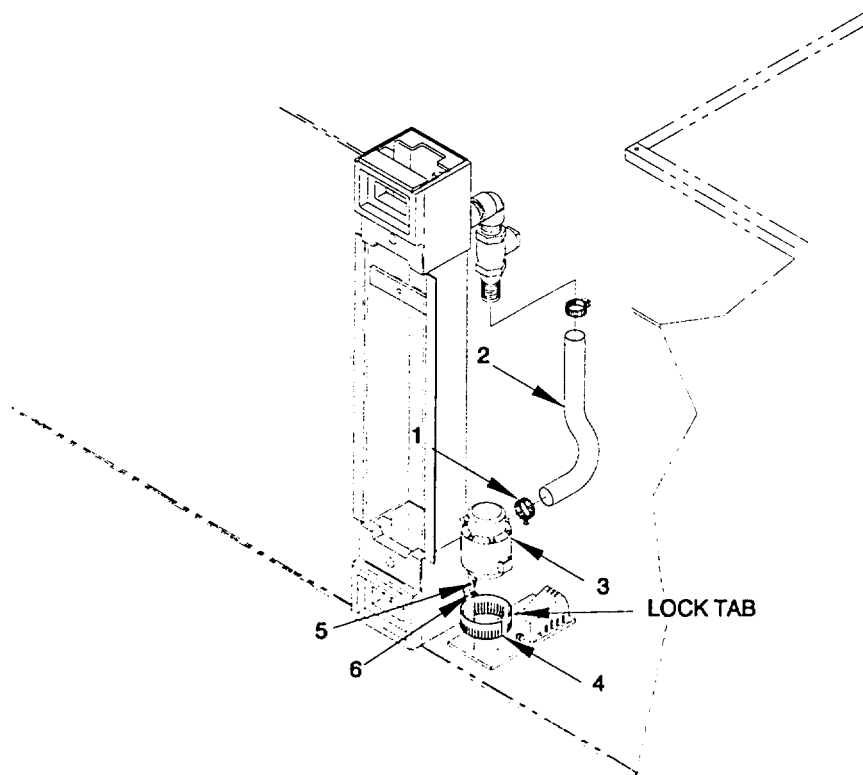

Figure 2-28. Typical Bilge Pump, Remove/Install
- (1) Inspect all components for clogging, accumulations, or deposits of material that restricts the flow of water through the pump.
- (2) Inspect hoses and piping for cracks, deterioration and leaks.
- (3) Inspect pump electrical leads for corrosion, deterioration, dirt, or loose hardware or frayed, loose, or broken electrical wiring connections.
- (4) Inspect for damage to any components. Determine if replacement is necessary for proper operation. Repair of the pump is limited to replacement of components.
b. Remove. (figure 2-28)**NOTE**
d. Install. (figure 2-28)
- (1) Apply thread sealant to threads on four hex head machine screws (5).
- (2) Secure new bilge pump strainer (4) to foundation with four flat washers (6) and four hex head machine screws (5).
- (3) Install new bilge pump (3) on strainer (4) and lock in place with lock tabs.
- (4) Install hose (2) on pump (3) and secure with hose clamps (1).
- (5) Reconnect electrical wires, as tagged, to bilge pump (3). Refer to Appendix G, for wiring information.